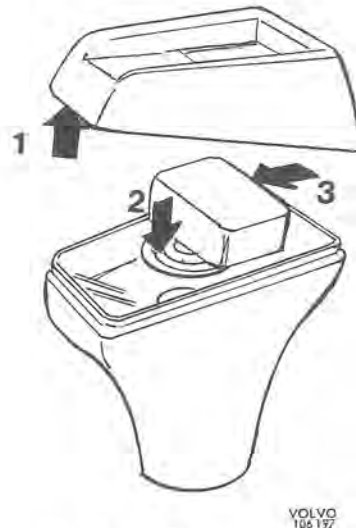

Fig. 4-126. Disassembling knob
2. With the help of a knife lever up at the front edge the cap (1) on the selector lever knob (see Fig. 4-126). Press down the spring washer (3) and push the button (18) forwards so that it releases from the push rod. Remove the washer and spring (4) and pull up the lower part of the selector lever knob (2).
3. Unscrew the retaining screws and lift off the shift positions console (7). Remove the bulb holder for the shift positions lamp (8). Unscrew and lift up the selector lever housing.
4. Release the nut and remove the lever (12). Remove the screws and take the bracket (15) off the selector lever housing (10).
5. Knock up the tubular studs. Remove the push rod (5) and inhibitor (17). Drive out the shaft (11). Release the screws from the gate (9). Drive out the bushes from the bracket (15).